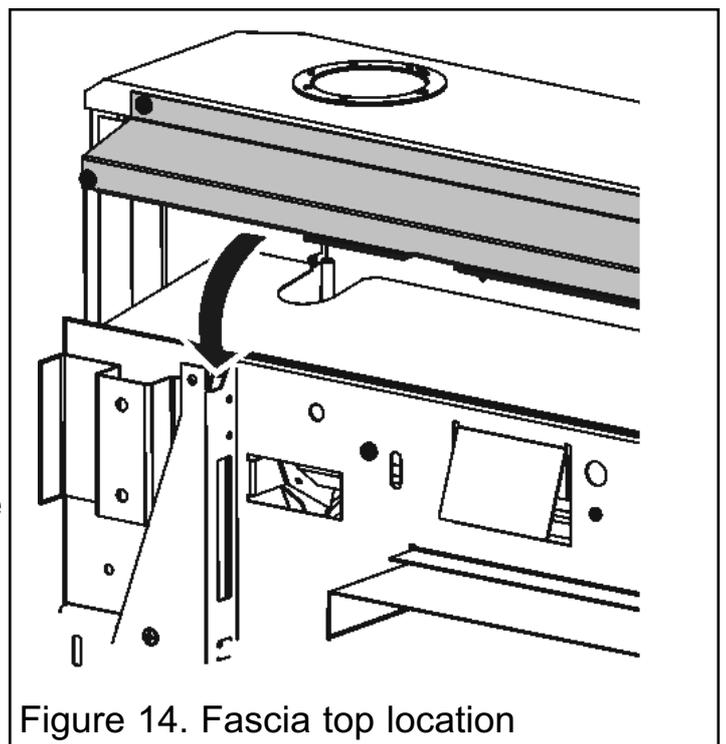

Figure 14. Fascia top location
8.1.1 Place the fascia over the engine. Make sure that the top rear of the fascia locates fully into the 'U' shaped notch of the engine back panel (See figure 14).
11.1.4. Replace in the reverse order. Make sure that the top rear of the of the fascia locates fully into the ‘U’ shaped notch of the engine back panel (See figure14). Make sure that the radiants are not dislodged when refitting the fascia.